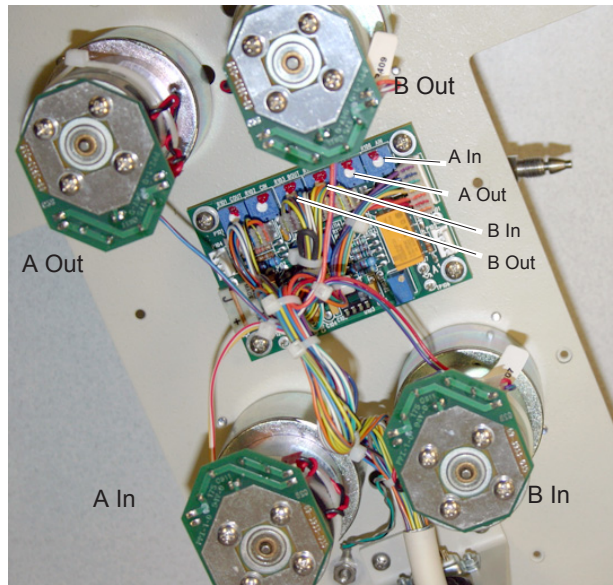

Figure 9-41 Electric valve motor adjustment
6. On the electric valve assembly CBA, adjust the corresponding potentiometer to the voltage printed on the side of the motor (refer to Figure 9-41).